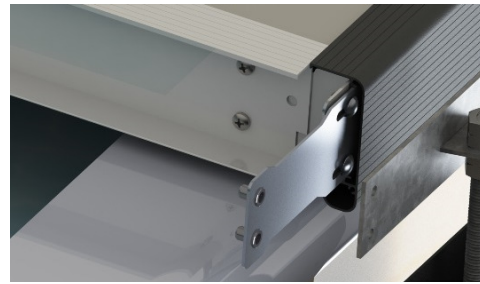

Figure 18
15. Reinstall the center panels back in his place and insert the I-beam in the c-channel. Make sure the bent part of the I-to-C bracket and the trimmed portion of the I-to-C connection plate are pointing towards the end of the cover. Make sure the I-beam is free to move in the slots (Figure 18).